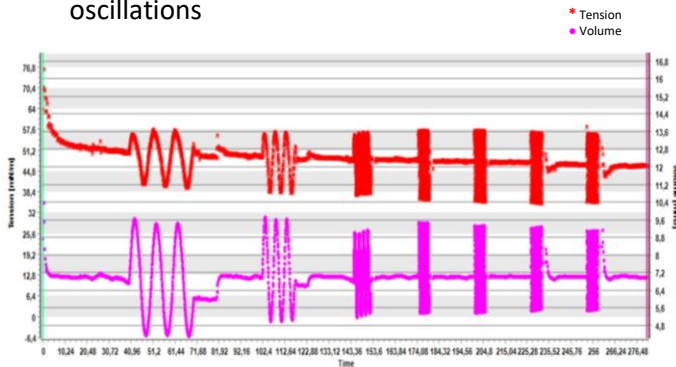

Fig1: Volume regulation with frequency sweep from 0.1 Hz to 10 Hz
- Oscillating frequency: from 0.01 Hz to 10 Hz with Piezoelectric module (Fig1)